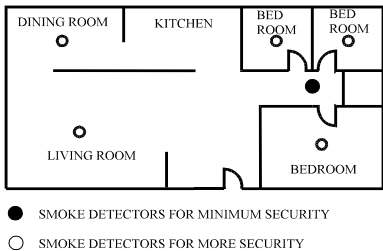

Figure 1: Installation locations for smoke & heat detectors in single-family apartments or homes with only one sleeping area
- Install a smoke & heat detector in the hallway outside of every separate sleeping area (*see Figure 1*). Two detectors are necessary in a building with two areas with bedrooms.